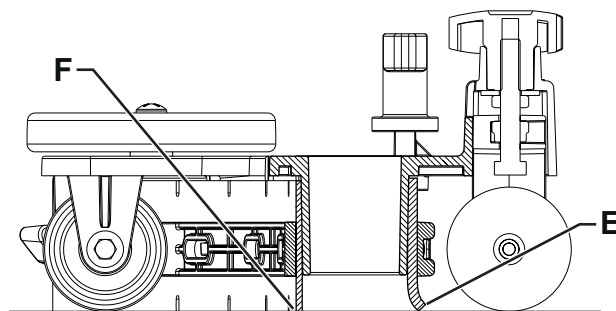

Figure 4
1. Install the squeegee (A, Fig. 4) and fasten it to the bracket (C) with the handwheels (B).
2. If necessary, adjust the squeegee with the knob (D) so that the rear blade (E) and front blade (F) touch the floor as shown in the figure.